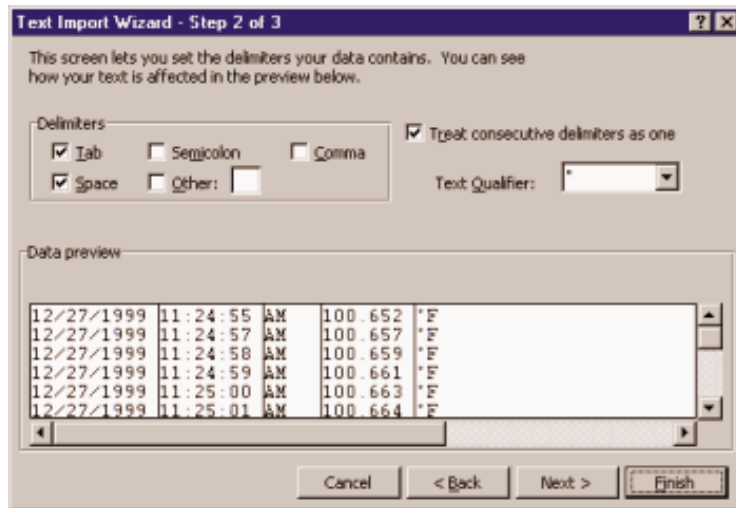

Figure 11 Text Import Wizard – Step 2 of 3 Dialog
- The Text Import Wizard – Step 2 of 3 dialog appears, Figure 11.